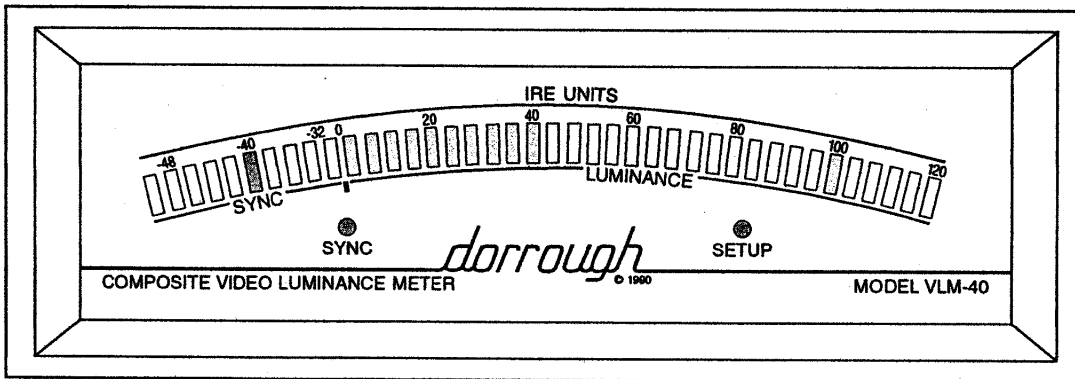

Fig. 4. VLM-40 display for standard EIA (split-field) color bar signal with standard setup at 140 IRE (1 V p-p).
4. Feed a standard EIA split-field color bar signal with standard setup at 140 IRE (1 V p-p) to the VLM-40 and verify that the meter matches the reading shown in Fig. 4.